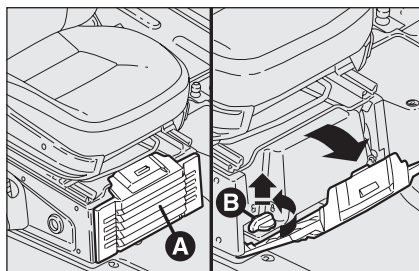
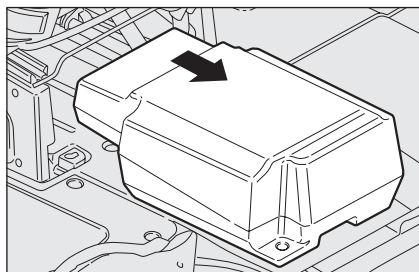

fig. 46
fig. 47
- ☐ Open lid **A** and remove it as shown in **fig. 46**;
- ☐ turn the knob **B** counterclockwise and remove it **fig. 46** to extract the compartment **fig. 47**;